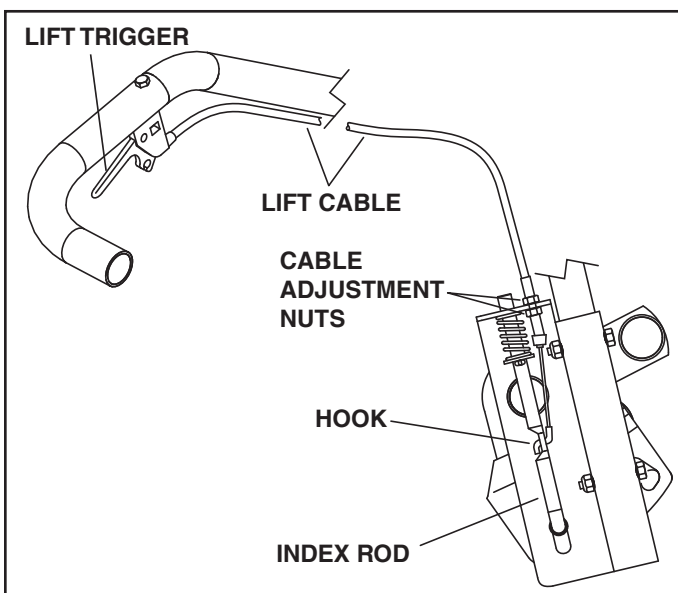

FIGURE 13
STEP 14: INSTALL LIFT CABLE (SEE FIGURE 13)
- Attach the lift cable to the lift handle using three cable ties (OO).